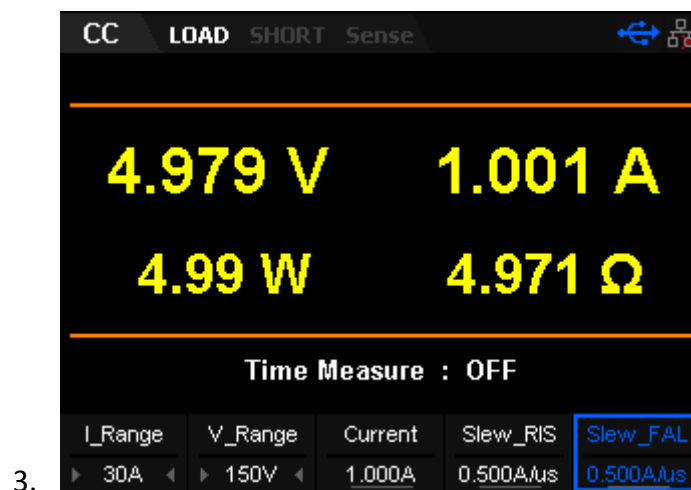

Figure 2-3 CC Mode Main Interface
2. Press **CC** to enter the main interface of CC mode, as shown in Figure 2-3.